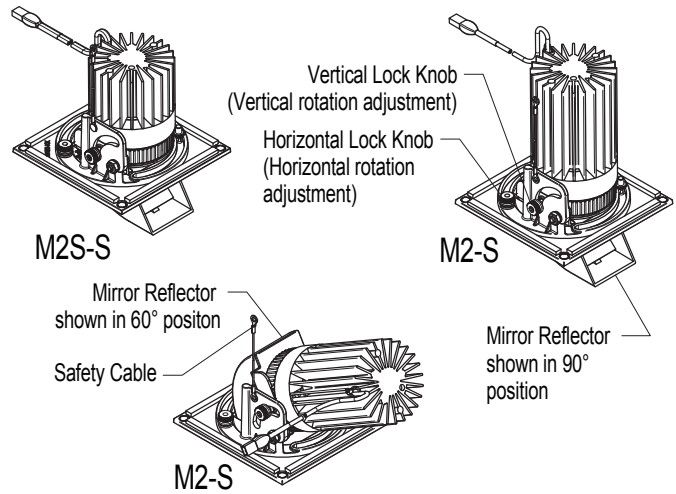

FIG. 4.3 Lamp Module Adjustment
Step 2 Adjust vertical to 90° position as shown in Fig. 4.3. Note: angle adjustment is limited on ceilings over 5/8" thick & when Mirror Reflector is aligned facing narrow sides of Housing.